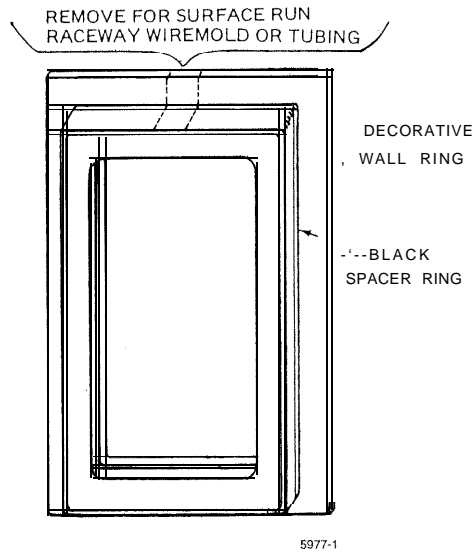

Fig. 2. Decorative wall ring and black spacer ring modification for surface run tubing.
3. If the pneumatic tubing is surface run, cut away a portion of the decorative wall ring and spacer ring. (Fig. 2).